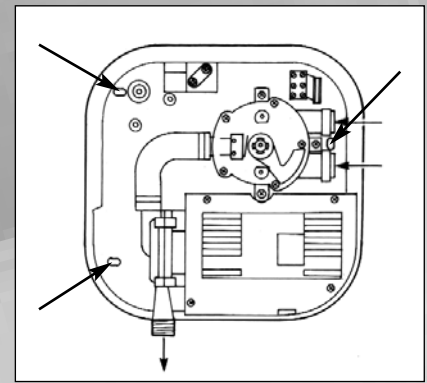

Fig.3. Fixing points - Manual
6. Mark the fixing points for the cabinet. Fig.3.